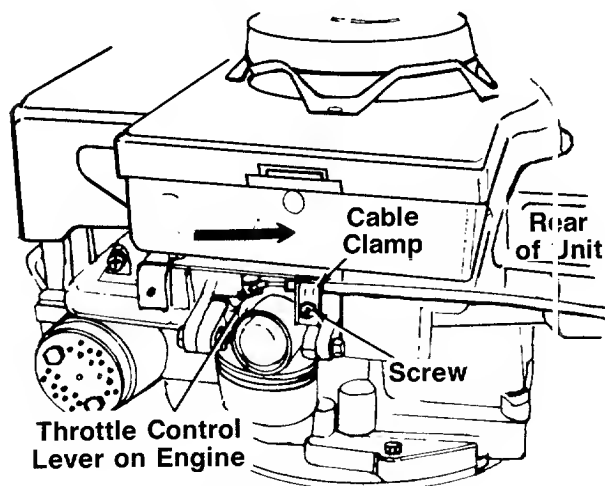

FIGURE 8.—Tecumseh Engine
2. The throttle control cable is attached to the upper handle. Route the throttle control cable under the lower handle and inside the handle mounting bracket. Hook the "Z" end of the throttle control cable into the control lever on the engine as shown in figure 8.